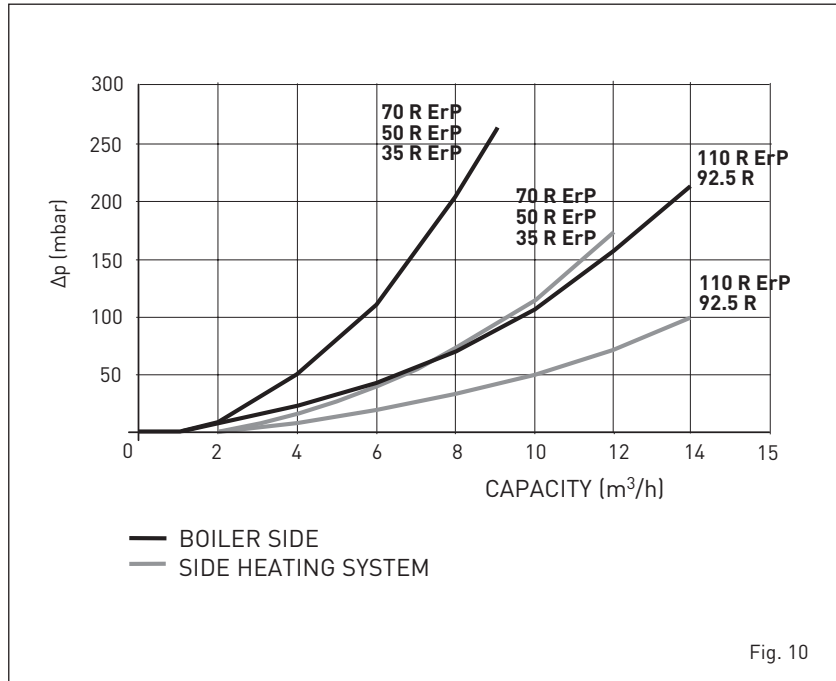

Fig. 10
2.8 LOAD LOSS HYDRAULIC SEPARATOR (fig. 10)
Hydraulic separator load losses are indicated in the diagram in figure 10.